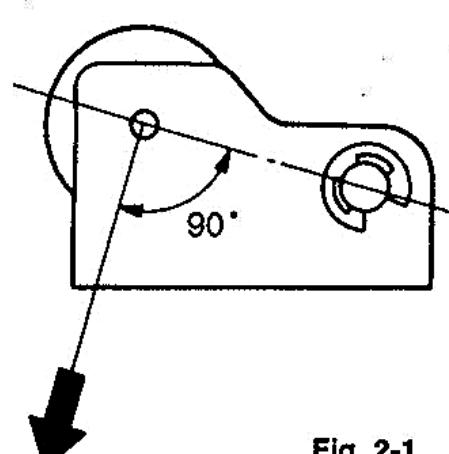

Fig. 2-1
3. Pull the scale in the direction indicated in Fig. 2-1 until the pinch roller fully separates from the capstan shaft, then slowly ease the scale so the pinch roller moves back toward the capstan shaft.